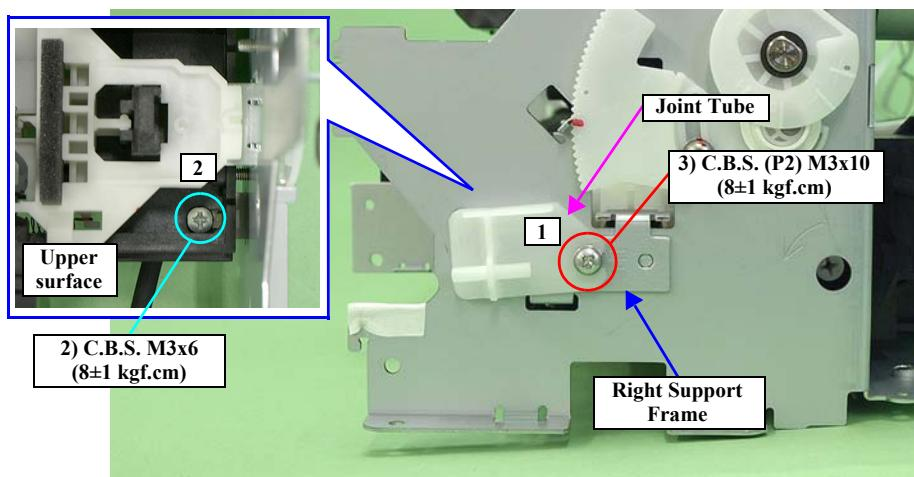

Figure 3-114. Removing the Right Support Frame
- Tighten the screws in the order shown in Figure 3-114